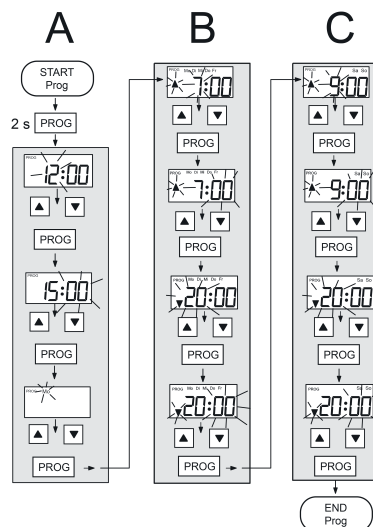

Figure 3: Programming steps
After the start of programming, the following steps are passed through in succession (Figure 3).
- Press **Prog** button to save the entered value and to recall the next value (Figure 3).